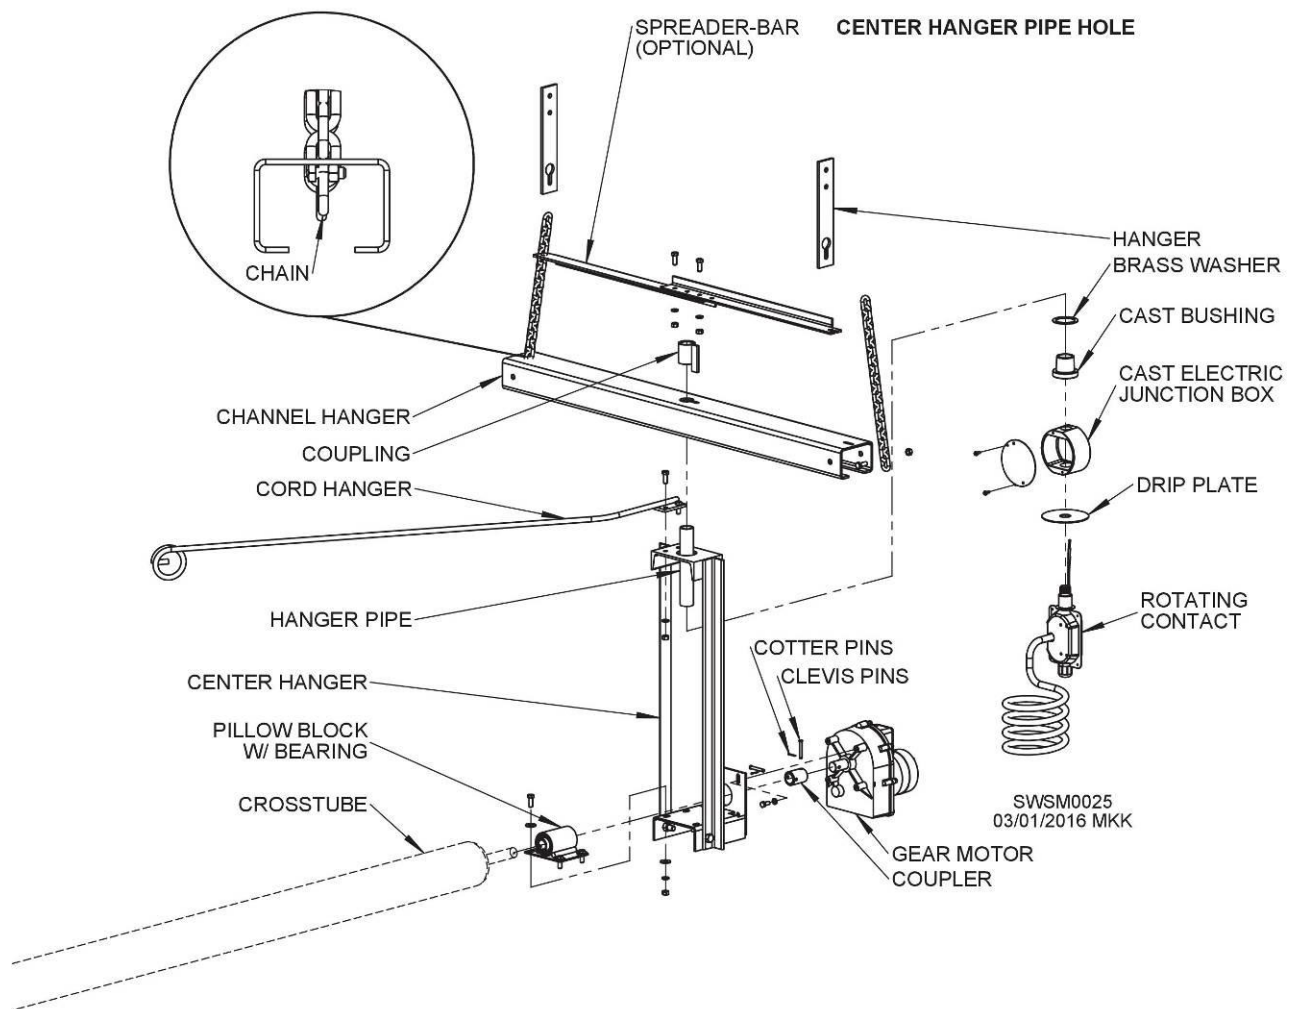
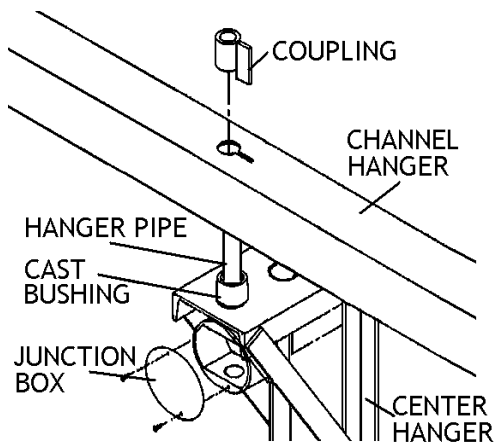
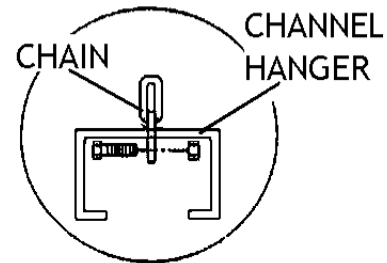

Figure 20 - Center Hanger Assembly
Figure 21 - Placement of Cast Electric Junction Box on Center Hanger
Figure 22 - Chain Placement in Channel Hanger
nuts. Do not tighten until gear motor alignment is correct (step 39). **Figure 20.**
- 35 Remove cotter and clevis pins from holes on 1" tube coupler attached to gearmotor shaft. Save pins. **Figure 20.**
- 36 Slide 1" tube coupler onto crosstube shaft and insert 1/4" x 1-3/4" clevis pin and 1/16" x 3/4" cotter pin from step 35 into holes to connect crosstube shaft and gearmotor. **Figure 20.**
- 37 Insert 5/16" x 3/4" bolts and 5/16" lockwashers from step 34 through holes in center hanger and screw into holes on gearmotor. Check vertical alignment. Tighten using 1/2" wrench. **Figure 20.**
- 39 Tighten 4 set screws in pillow block bearing (2 on each end) using 1/8" hex (Allen) wrench. Tighten bolts (step 33) using 9/16" wrench. Tighten set screws on pillowblock. **Figure 20.**
- 40.1 **Note: Ensure threads are fully engaged, as they will hold weight of Fastir.** **Figure 20.**
- 41 Slide cast bushing and brass washer onto hanger pipe so they rest on junction box. **Figure 20.**
- 42 Slide end of hanger pipe up through bottom of hole in center hanger so junction box is inside center hanger. **Figure 20, Figure 21.**
- 43 Slide channel hanger over hanger pipe. **Figure 20, Figure 21.**
- 44 Screw coupling onto hanger pipe ensuring tab on coupling fits in slot on channel hanger. **Figure 20, Figure 21.**
- 45 Thread a liquid-tight elbow (not provided) into top of coupling. Ensure threads are seated properly and tighten well. **Figure 20.**
- 46 Bolt chains onto each end of channel hanger using 3/8" x 1" bolt and 3/8" nut. Tighten using 9/16" wrench. **Figure 20, Figure 22.**